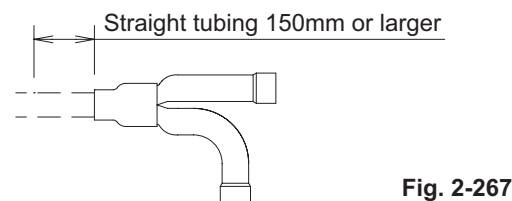

Fig. 2-267
- For branching tubes, install 150mm or larger (including reducer) straight tubing up to the point where the tube branches (or after the point where the tubes join together). (Fig. 2-267)